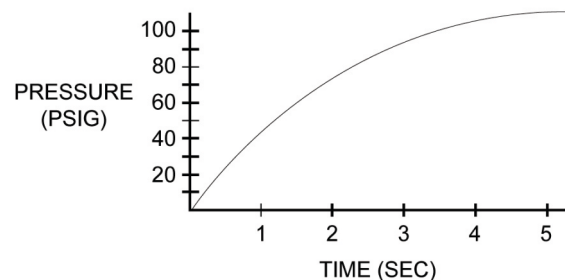

Figure 11
3.2.5 Repeat the above procedure while adjusting the flow control valve (11) to supply a pressure rate of approximately 20 psig/sec. (1.4 bar/sec.). Due to the non-linearity of the pressure-time curve (See Figure 11), it will be easier to use a reduced value to set the flow control valve. For example, if the tank pressure is 100 psig (6.8 bar), to obtain a flow rate of 20 psig/sec. (1.4 bar/sec.), time the pressure build up to 80 psig (5.4 bar) and adjust the flow control valve to deliver this pressure in 4 seconds, which, for all practical purposes, would equate to the desired 20 psig/sec. (1.4 bar/sec.).